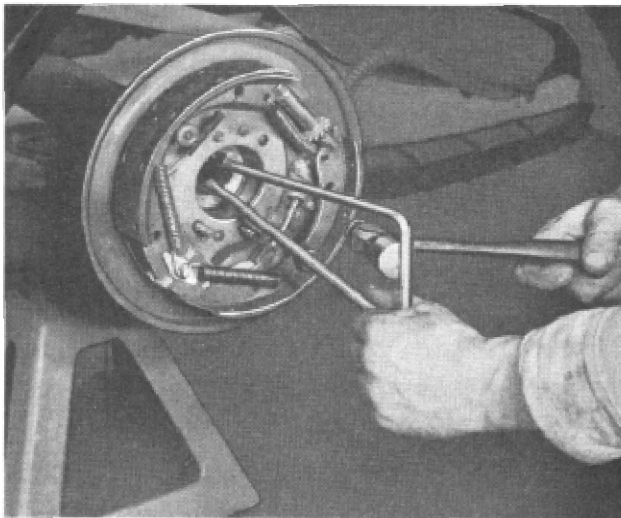

Figure 5
(10) Remove axle shaft oil seal and retainer (38), using rear axle and pinion shaft oil seal remover J-489 (Fig. 5).
(11) Disconnect brake conduits and cables at backing plates and remove brake shoe assemblies.